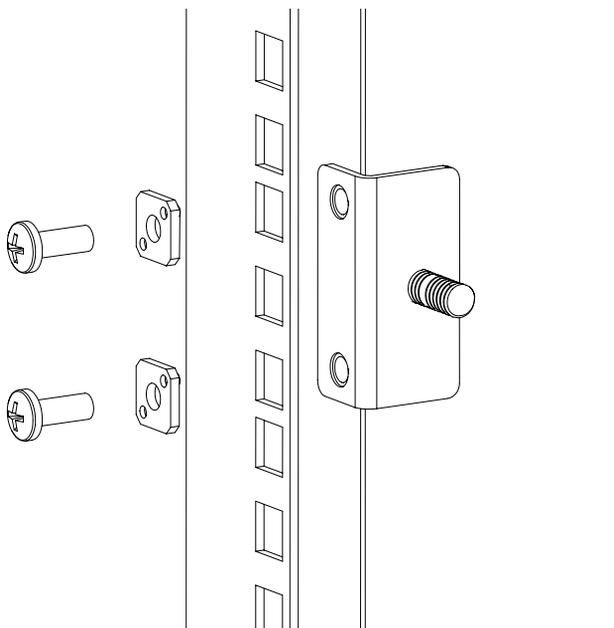

Figure 2: Installing the rear mounting brackets (HP 9000 Series or comparable EIA rack)
- For an HP 9000 Series or comparable EIA rack, assemble each of the two brackets with (2) #10-32 x 1/2-inch Phillips pan-head screws with captive star lock washers and (2) #10 adapter washers as shown in Figure 2.